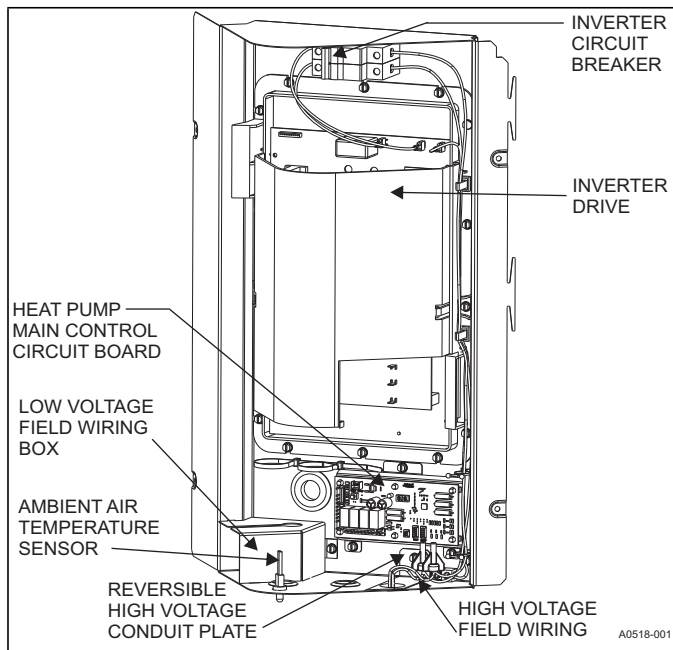

FIGURE 10: Outdoor Unit Control Box (Single Phase)
1. Route low voltage wiring into bottom of control box as shown in Figure 10. Make low voltage wiring connections inside the low voltage box per Figure 11.